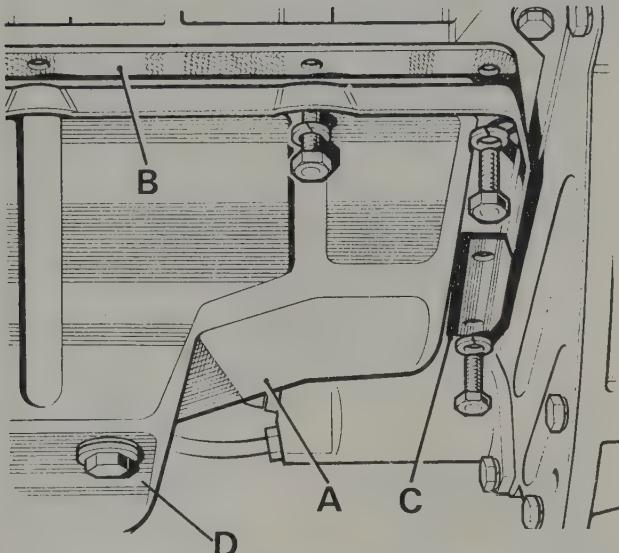

Fig. 1.41. Engine oil sump removal
- 4 Remove the bolts with the exception of the two remaining at diagonal corners. If the sump is stuck to its gasket remove all bolts. (Fig. 1.41).